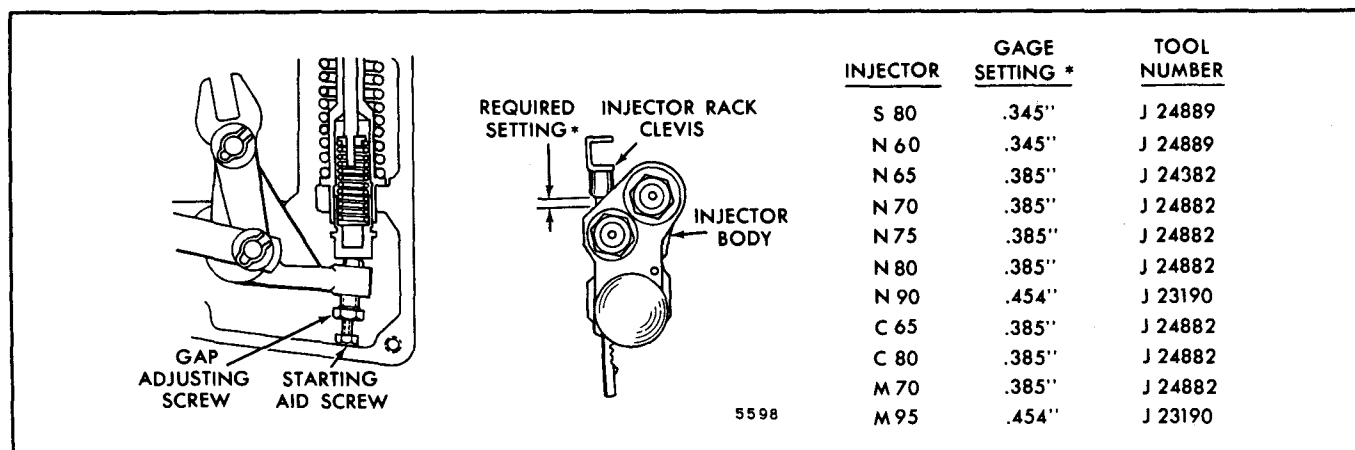

Fig. 5 - Starting Aid Screw Adjustment
The starting aid screw (Fig. 5) is threaded into the governor gap adjusting screw. This screw is adjusted to position the injector racks at less than full fuel when the governor speed control lever is in the idle position. The reduced fuel makes starting easier and reduces the amount of smoke on start-up.
2. Hold the gap adjusting screw, to keep it from turning, and adjust the starting aid screw to obtain .330" to .360" clearance between the shoulder on the No. 3R injector rack clevis and the injector body (Fig. 5), with the head of the starting aid screw against the governor wall.
the high speed spring plunger and the low speed spring cap (Fig. 5).